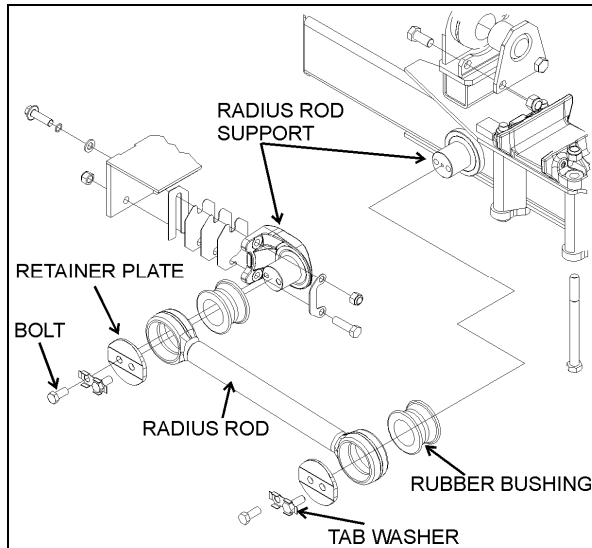

FIGURE 46: TYPICAL RADIUS ROD SETUP 16010
1. Flatten the tab washer which secures the two retaining bolts, and then unscrew the bolts at each extremity of the radius rod (Fig. 46).
1. Lightly spray the radius rod support with water. Place the radius rod end over the radius rod support (Fig. 46).